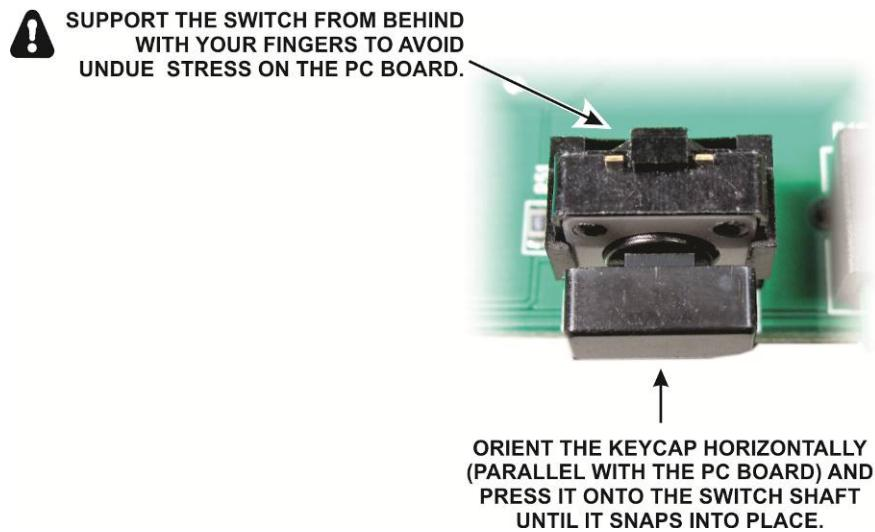

Figure 33. Installing Key Caps on the Switches.
- On the edge of the pc board that has the rows of LEDs, install key caps on the three switches (S1, S2 and S3) as shown in Figure 33. Be sure you orient the key caps horizontally (parallel with the pc board).